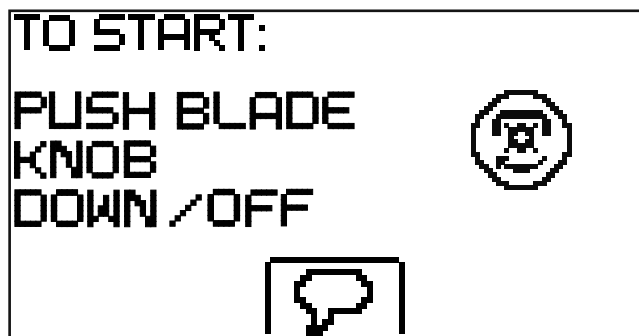

Figure 5-4
3. Make sure the blade start/stop knob in the DISENGAGED position. See Figure 5-4.